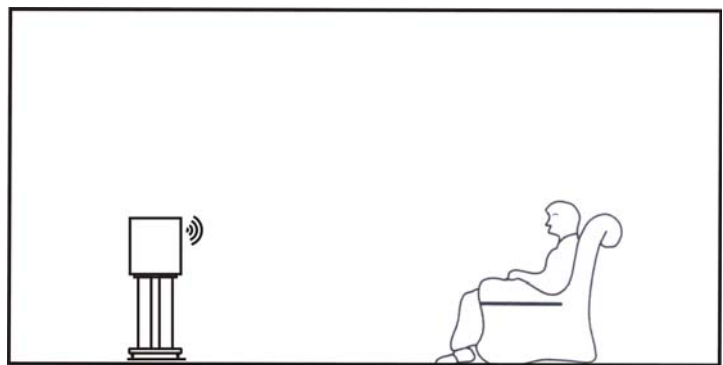

fig.2
- The optimum height for the loudspeakers placed on the stand, the center of the aluminum ribbon tweeter should be on the same level with your ear when you sit on your accustomed seat. **Please see the fig.2.**